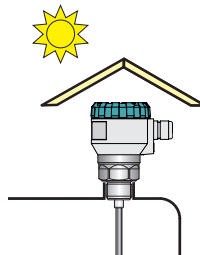

Fig. 11: Solar radiation shielding cover
- The level meter must not be installed in locations exposed to **direct solar radiation** and must be protected against the effects of weather. In the event that installation in a location with direct solar radiation is unavoidable, it is necessary to install a **shielding cover** above the level meter (fig. 11).